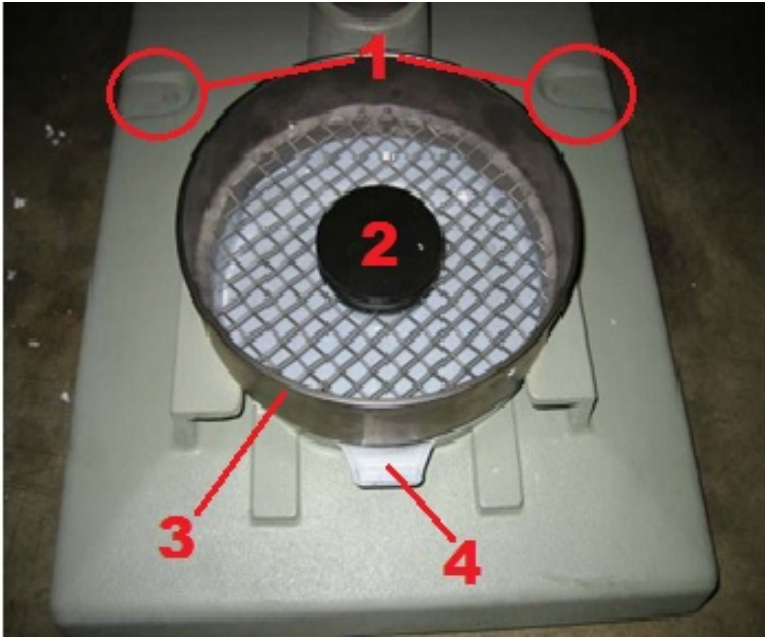

Figure 3: Shatter Index Tester base with 1/2" mesh sand sieve (3), sand catch pan (4) and target (2).
9. Slide the sand target through the ½" mesh sand sieve and sand catch pan into the Shatter Index Tester base as shown below in Figure 3.